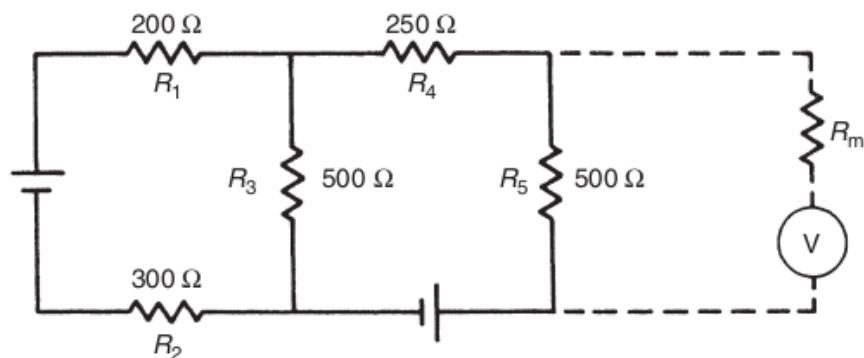

Figure 4: Circuit for Exercise 5
In the circuit shown in Figure 4, the resistor values are given by $R_1 = 1000\Omega$; $R_2 = 1000\Omega$; $V = 20$ volts. The voltage across AB (i.e., across R_2) is measured by a voltmeter whose internal resistance is given by $R_m = 9500\Omega$.
5. If the parameters in Figure 4 have the following values, $R_1 = 5000\Omega$; $R_2 = 10000\Omega$; what value would the voltmeter internal resistance R_m need to be in order not to exceed a measurement error of 1%?